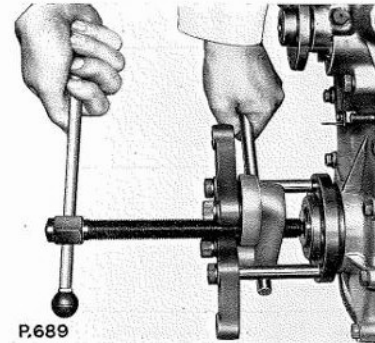

Fig. B.92. Withdrawing the crankshaft pulley boss, using the Churchill Main Tool 55 in conjunction with the adaptor set R.G.55-8
6. Withdraw the crankshaft pulley and damper assembly using normal hand pressure only. If a heavy interference fit is encountered, the use of Churchill Main Tool 55 and the Adaptor Set R.G.55-8 is recommended (see Fig. B.92), noting that it is first